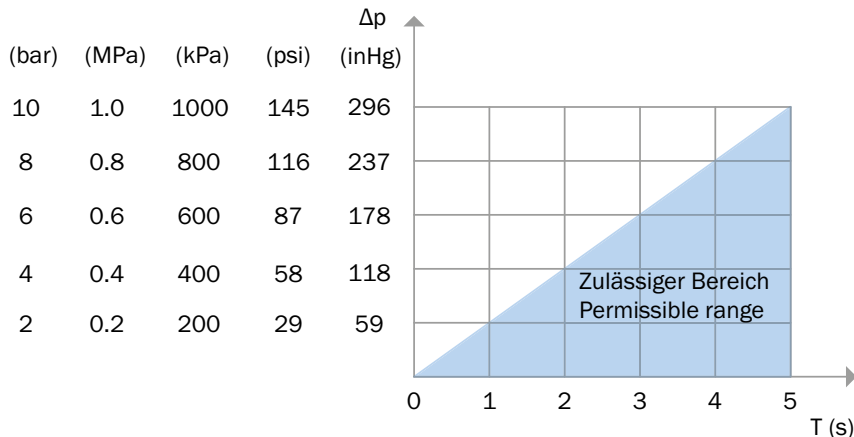

Figure 1: Minimum permissible period T with maximum pressure fluctuation Δp Transport, packaging, and storage
- Do not allow the device to heat up to an unacceptable level as a result of repeated compression of the compressed air. The minimum permissible period for pressure fluctuations Δp is specified in Figure 1.